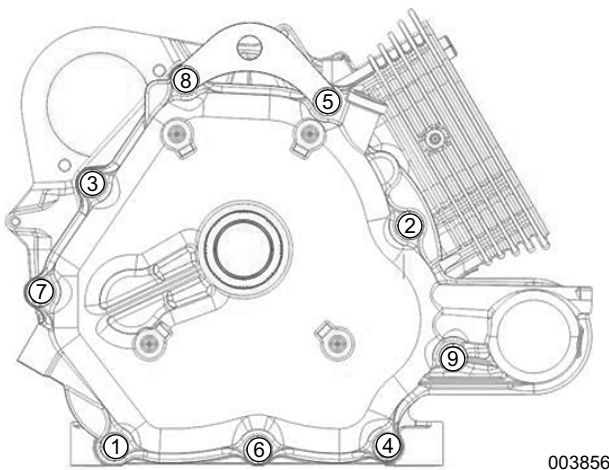

Figure 14-36. Fastener Torque Sequence
3. See Figure 14-36. Tighten the nine fasteners to 20 ft-lbs (27 Nm) in specified torque sequence.